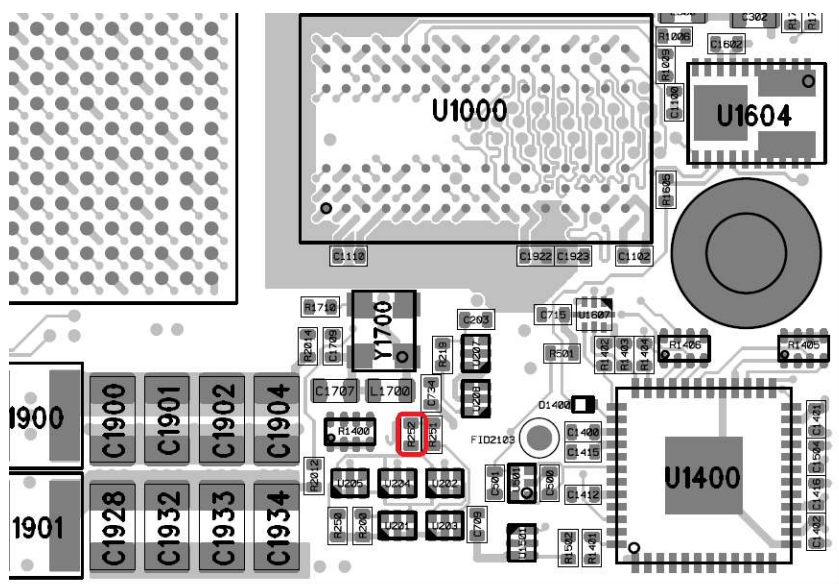

Figure 14: JTAG Boot Mode Resistor - Assembly Drawing Top View (lower right part)
- Short-circuit R252 (see Figure 14) while powering-up the module (in order to sample the MPSoC boot selection pins correctly for JTAG boot mode)